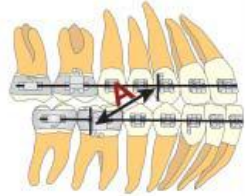

Figure 2
- Measure from the distal edge of the upper cuspid bracket to the distal end of the lower 1st molar lip bumper tube (Figure 2).
- See the chart below for measurement ranges (A) and part numbers.